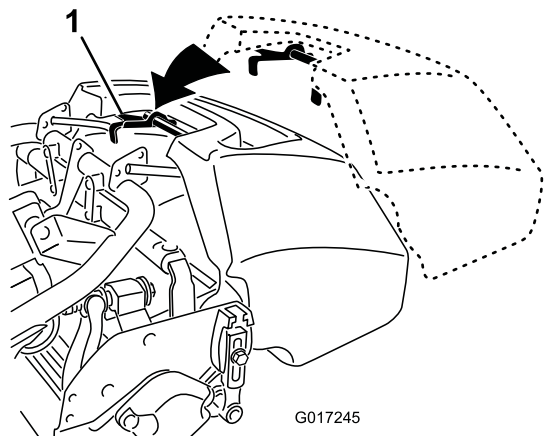

Figure 21
2. Guide the basket lip between the cutting unit side plates and over the front roller (Figure 21).
3. Install the basket hooks over the frame loop (Figure 21).